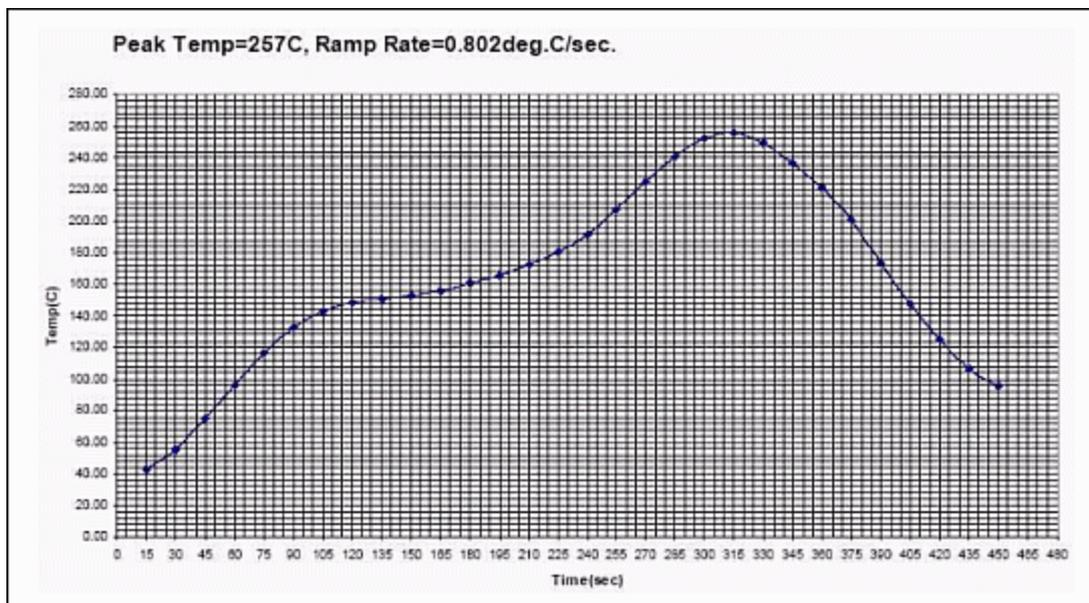

Figure 7. Typical temperature profile for Sn96.5Ag3.5 and Sn-Ag-Cu "Pb-Free" solder paste.
- "Pb-Free" solder paste reflow: Nominal peak temperature is $250^{\circ}\text{C} \pm 10^{\circ}\text{C}$ with time above the 217°C to 221°C melting point of $60\text{s} \pm 15\text{s}$, which should be verified at machine setup by inline thermocouple measurements oven profiling. A typical "Pb-Free" solder paste reflow temperature profile is shown in **Figure 7** for Sn96.5Ag3.5 and SnAg(2-4)Cu(0.5-0.8) alloys.